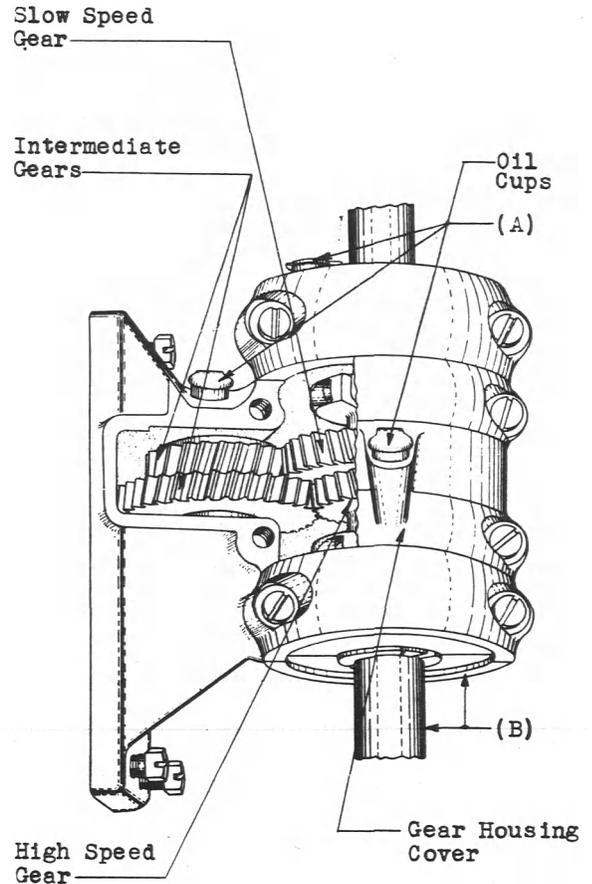

Fig. 1
- (a) Fig. 1 (A) - The Ball Bearings shall be adequately lubricated with KS-6438 oil. When lubrication is necessary one discharge of oil shall be applied.
2.04 Squareness of Drive - Fig. 1 (B) - The lower finished surface of the drive shall not be out of perpendicular (out of square) with the axis of the vertical drive shaft by more than .010" when measured across the outside diameter of the bearing bracket. Use the R-1306 bracket squaring gauge and gauge by eye.